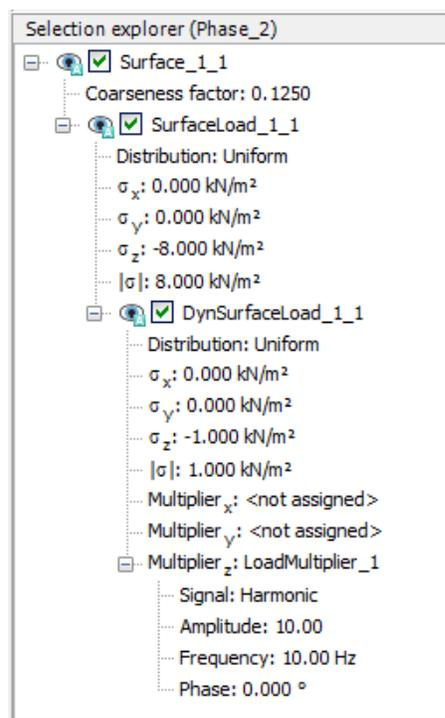

Figure 122: Applied load in the Phase_2
7. In the **Staged construction mode** activate the dynamic component of the surface load. Note that the static component of the load is still active (see Figure 122 (on page 151)).